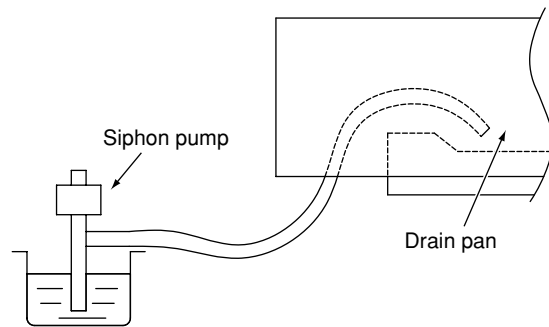

Fig. 3-16
- (1) Connect power to the power terminal board (R, S terminals) inside the electrical component box.
- (2) Pour water into the drain pan about 500 cc using a siphon pump through the air outlet grille. (Fig. 3-16)
- (3) Short the check pin (CHK) on the indoor control board and operate the drain pump. Check the water flow through the transparent drain pipe and see if there is any leakage.